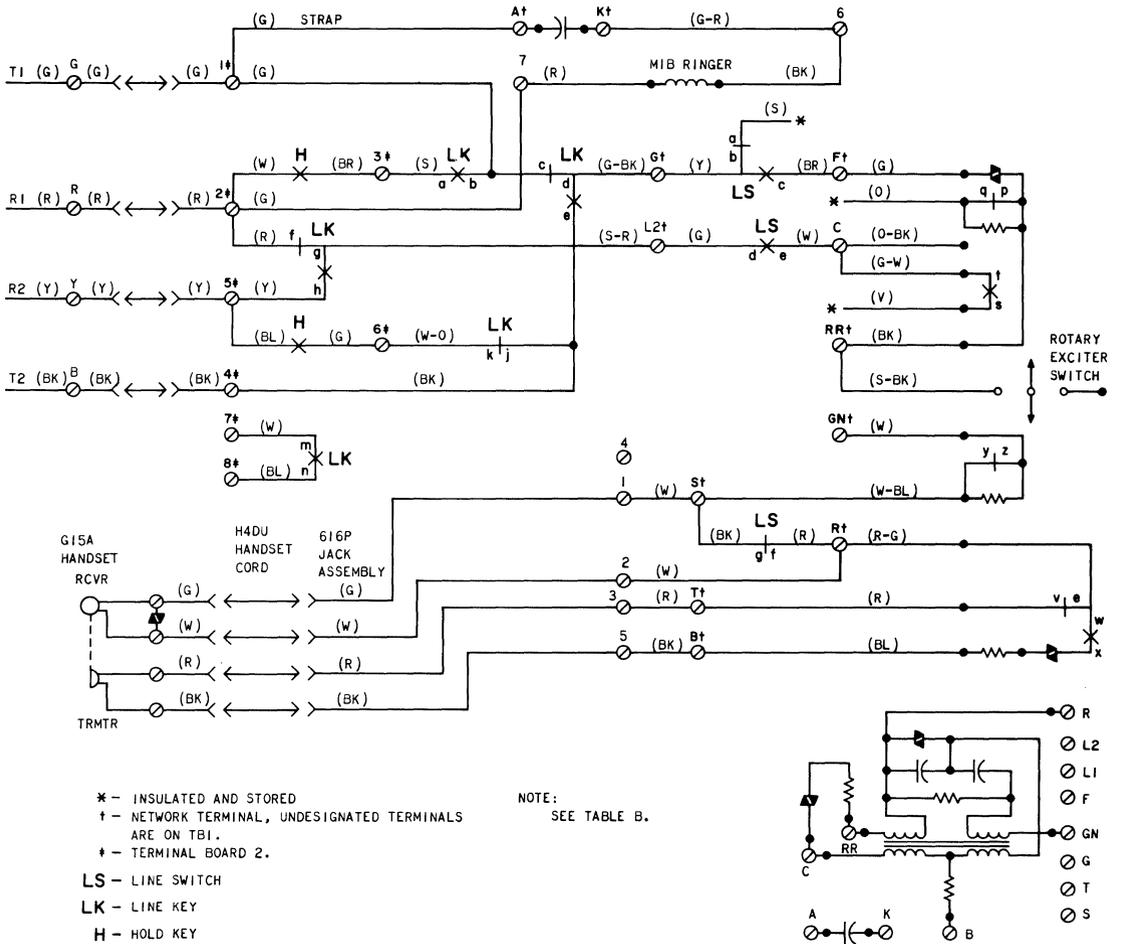

Fig. 2—2660A1M Telephone Set Modified for 2-Line Pickup and Hold (Nonkey Telephone Systems)
- 1.04** When exclusion or 2-line pickup and hold (monkey telephone system) is provided the appropriate D-kit of parts must be installed and the D4BU-29 mounting cord and 623P4 jack assembly must be removed and replaced with a D6AF-87 mounting cord, refer to Fig. 2 and 3.